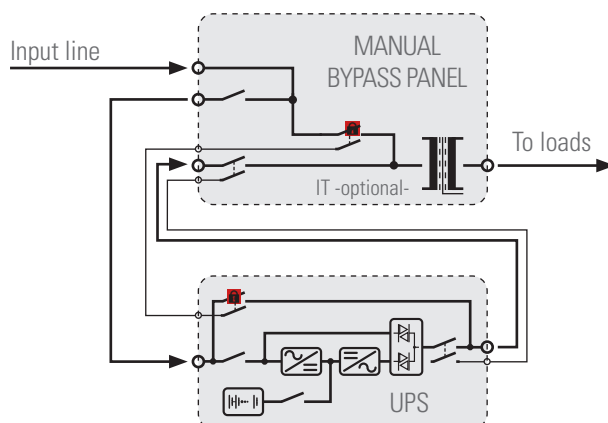

Fig. 1. Connection of the standard manual bypass panel to the UPS.
- ☐ Standard or basic (Fig. 1). With a common input for the supply of the UPS (rectifier-PFC) and the static bypass line.